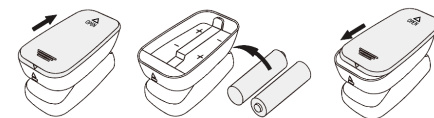

Figure 3. Batteries assembly
- Step 1. Refer to Figure 3. and insert the two AAA size batteries properly in the right direction.